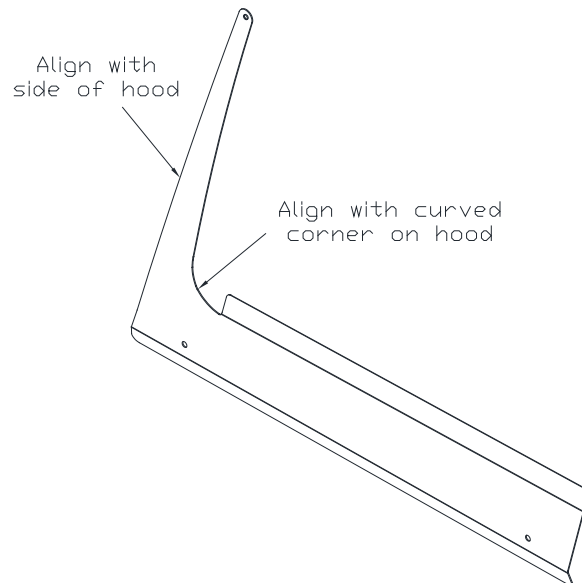

Fig. 1
2. Hold the fender guard in place against the truck by aligning the radiused corner of the fender guard with the matching curve on the hood and also ensuring the innermost edge of the fender guard is aligned with the side of the hood (Fig. 1). Mark the lower two holes with a marker.